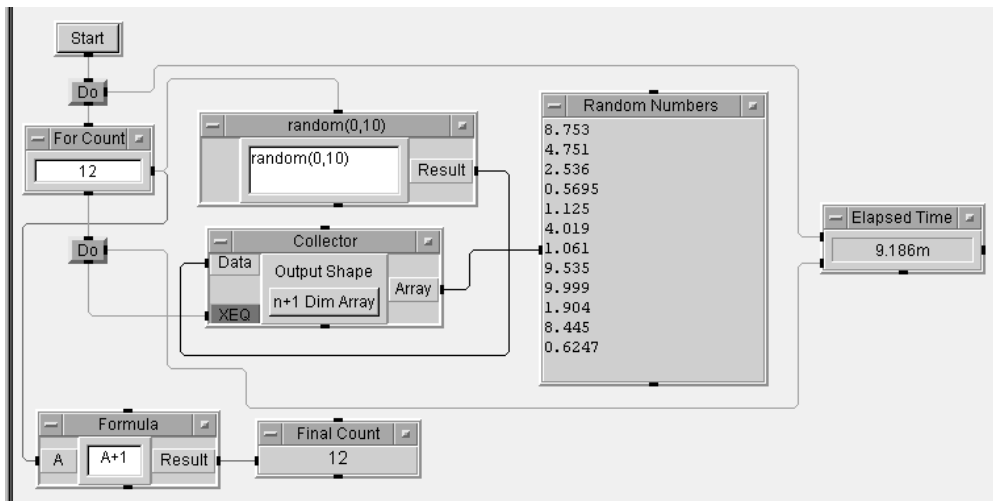

Figure 3.6. Generating and monitoring random data
24. Run this program; it should look like Figure 3.6.